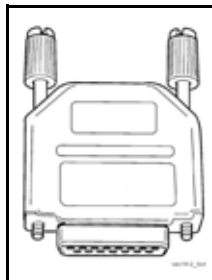

Fig. 102 Teach key
- Insert teach key **(Fig. 102)** into its slot at the top left of the switch cabinet for the VECTOR control system **(Fig. 103)** and screw together.